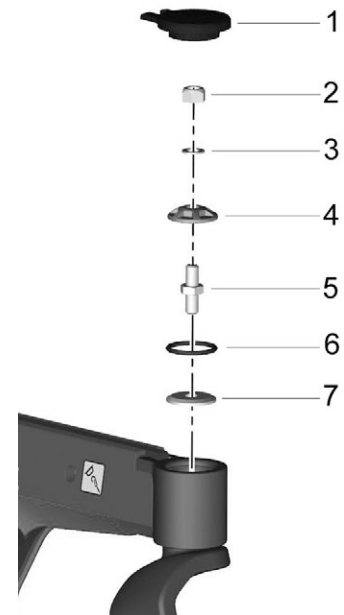

Figure 241. Friction brake.
- 1. Remove the cover (1) on the link arm. See fig 241.
- 2. Adjust the friction brakes by tightening or loosening the lock nut (2).
- 4. Fit the cover (1) on top of the link arm. See fig 241.